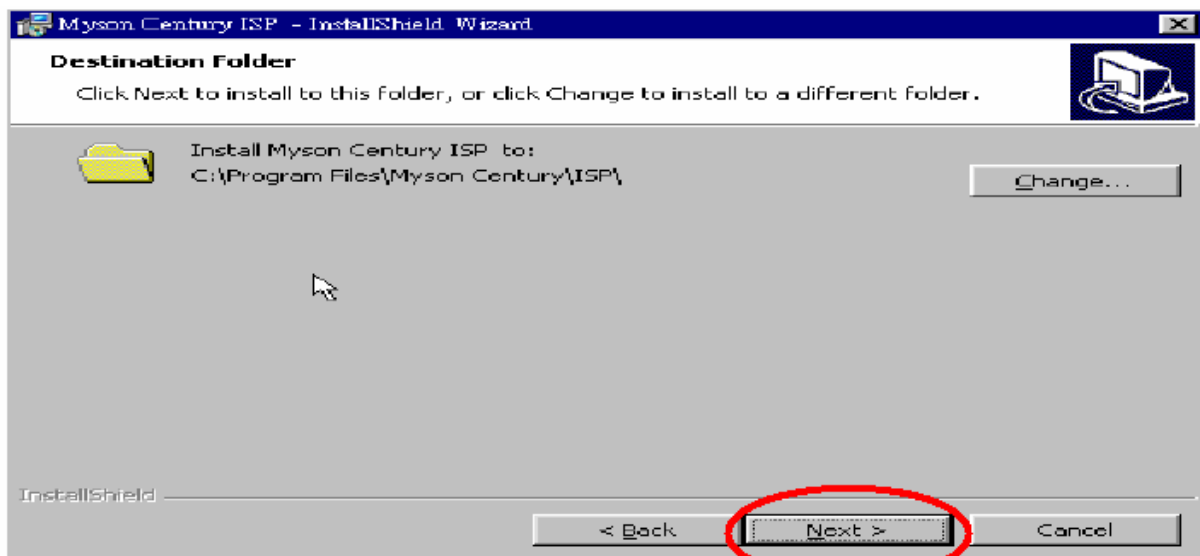

Fig 1.4
1.4 Keep default setting or press “Change “ button for selecting the path that you want , and then press “Next “ button to continue , see Fig 1.4 .